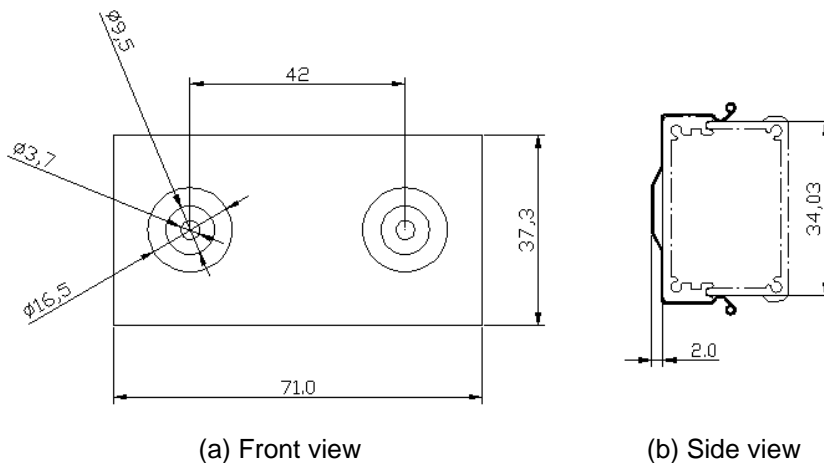

Fig. 3.2 Micro unit's clip
- a) Mount the clip (Fig. 3.2) onto a fixture, e.g. a plank, (either on the wall or on a flat surface) with two screws piercing through the holes on the mounting frame to secure it in position.